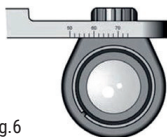

Fig.6
telescope along bar (Fig. 6)
- Align each telescope as outlined earlier by sliding along the bar. (Fig. 6)